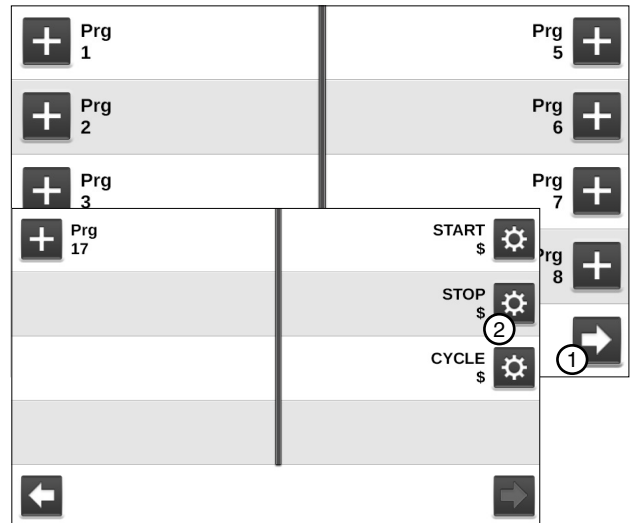

Figure 137-1 Step Programs Screen
1. Push **Menu**, **Programs**, and **Step Programs** to view the Step Programs screen. Refer to Figure 137-1.